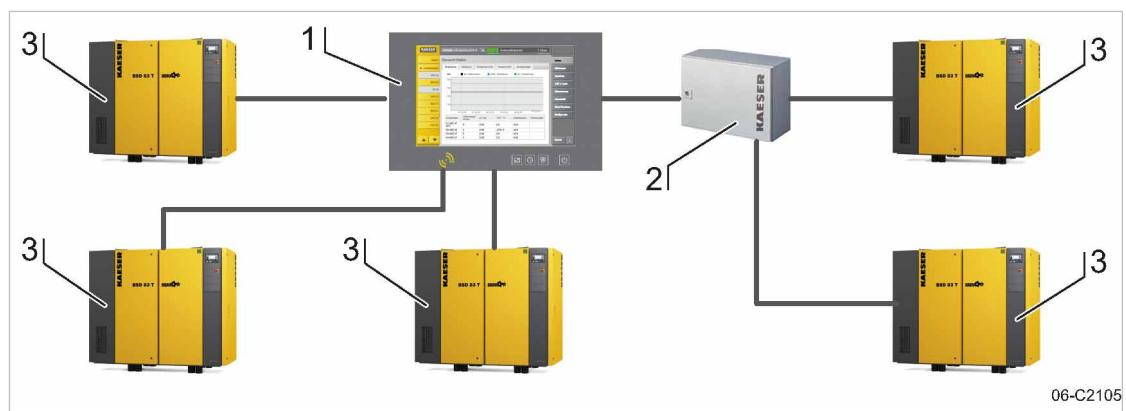

Fig. 10 SIGMA NETWORK design
- For details to create SIGMA NETWORK , see Fig. 10.